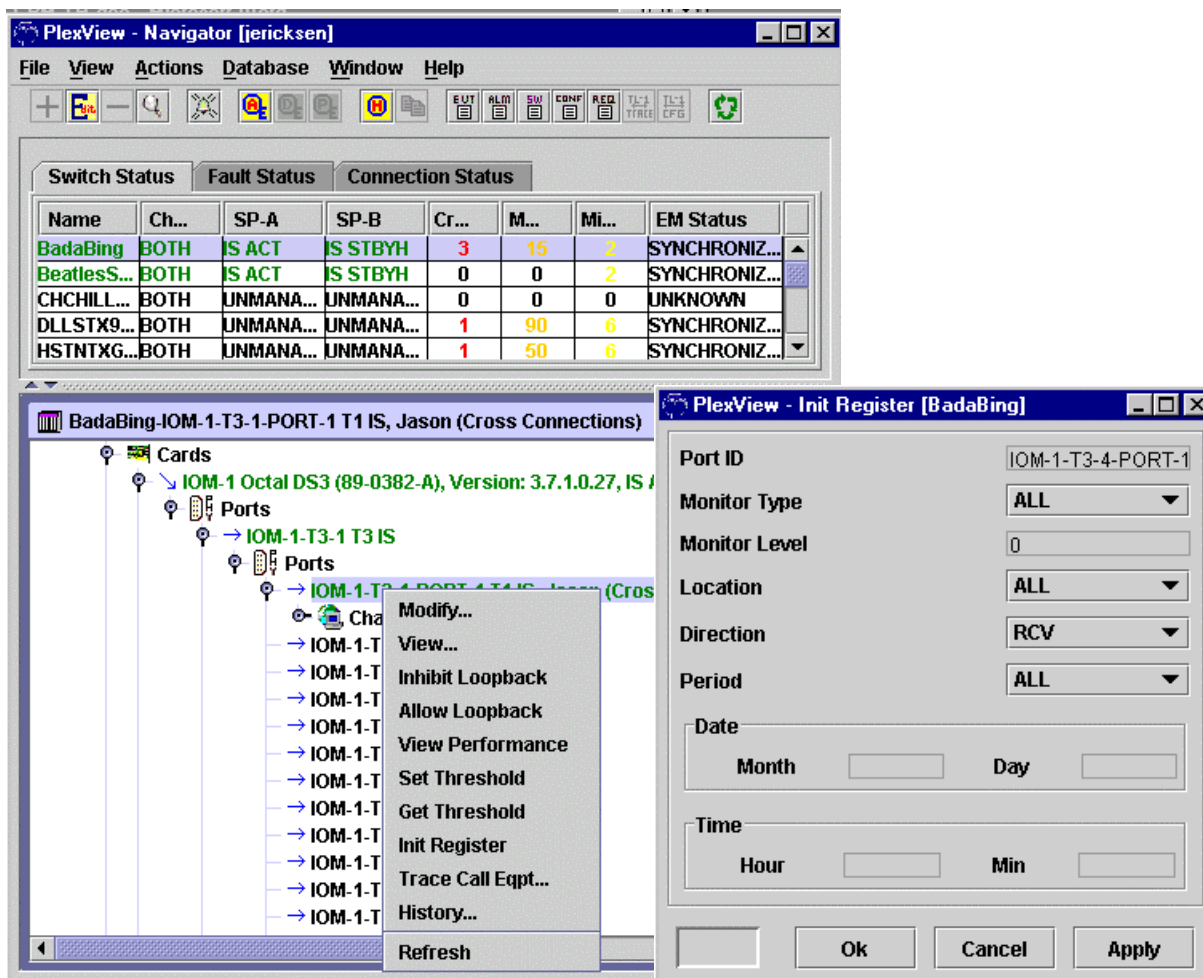

Figure 3. Modify T1 PM Thresholds
6. Initialize one or more storage registers or event counters associated with specific T1 ports in the Plexus 9000. Double-click *Switch*, *Switch name*, *Cards*, desired *IOM*, *Ports*, desired port, and *Ports*. Right-click desired port, select *Init Register*. Make required changes and then click *Ok* or *Apply*. See Figure 3.